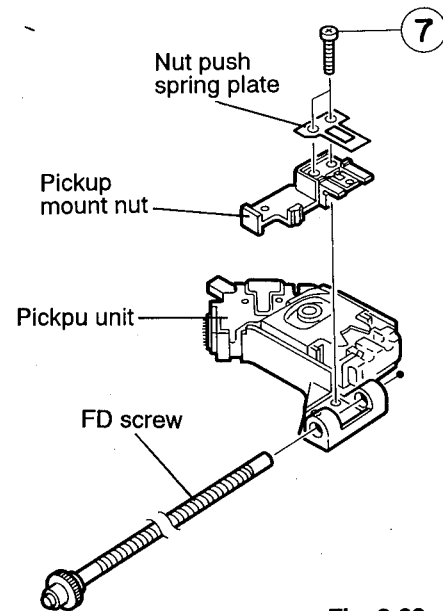

Fig. 2-22
8. By removing the two screws ⑦ retaining the pickup unit, dismount the nut push spring plate and pickup mount nut (See Fig. 2-22).
9. Remove the FD screw from the pickup unit (See Fig. 2-22).